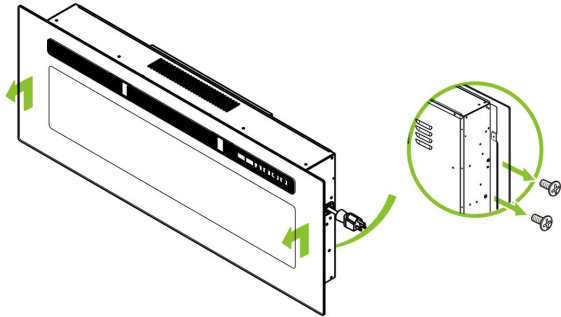
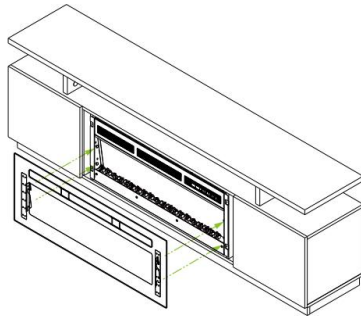

Fig.1
Fig.5
Installation (see Fig1 ~ Fig 5)
- Remove four silver screws from the sides of the heater, two screws on each side. Remove the tempered glass by lifting it from the lugs on the sides. see Fig.1
- Place the front glass surround over the front of the fire aligning the slots in the bracket at each side of the glass panel with the lugs on the sides of the fire; See Fig.5